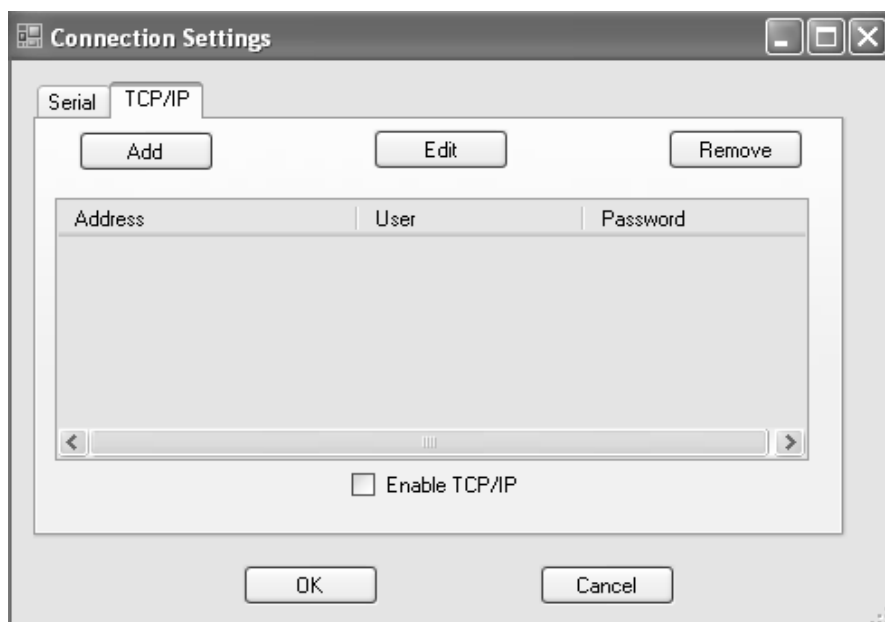

Fig. 2-10. Screenshot of 'TCP IP' selection in the Connection Settings dialog box. TCP/IP connection setting is established here.
- In the Main menu, select 'Connection Settings'. The 'Connection Settings' dialog box will pop up as shown in Fig. 2-10.